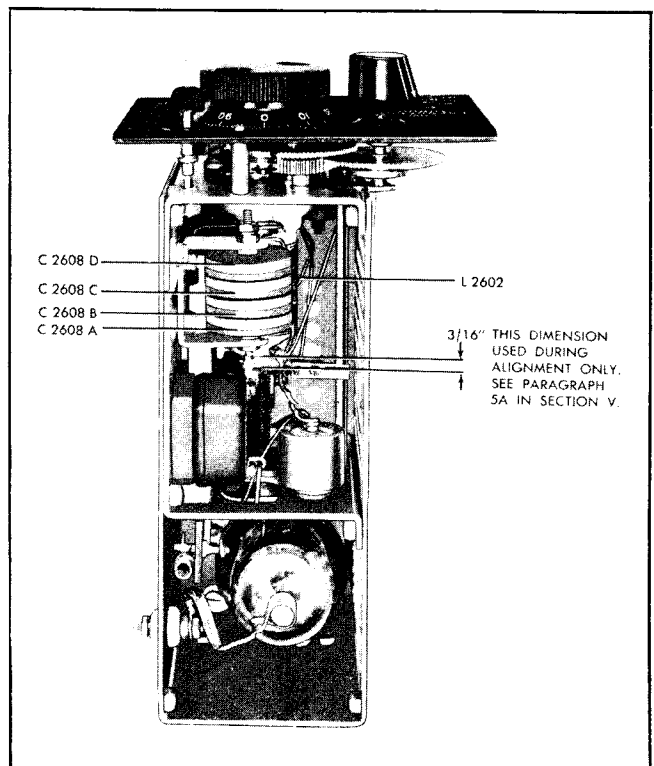

Figure 5-7. Low Frequency Oscillator
(5) Remove cover on top of L.F.O. unit by taking out screws around rim.
(6) Turn control "G" counterclockwise until revolution counter dial reads zero and control "G" will not turn any further. Operate corrector knob so that index line is directly above the center of control "G" even though it no longer points to zero line on the control.
(7) Measure the length of tuning slug that extends out of the rear end of inductor L2602. This dimension should be 3/16" (see dimension shown in figure 5-7). If the slug extends out by this amount, no change in slug position is required and the following steps No. 8, 9, and 10 may be omitted—proceed with step No. 11. If the slug is incorrectly set, proceed with step No. 8.
(9) Hold gear train in dial drive mechanism, so that it cannot rotate. Then rotate control "G" until tuning slug in inductor L2602 extends 3/16" out of the rear of the coil form (see dimensions shown in figure 5-7).
(10) Retighten Bristo setscrews in small spur gear.
(11) Loosen two setscrews in control knob "G" and holding the gear train stationary, set knob so that zero mark lines up with the index line. Then retighten setscrews in the knob.
(12) Set control "G" to read exactly 1964.0 (this is dial setting shown in calibration table 6-9 for frequency of 600 Kc). Approach setting in a clockwise direction.
(13) Replace shield cover on top of low frequency oscillator unit. Operate power level switch to CALIBRATE position.
(14) Connect headphones to sidetone output jack.
(15) While listening to sidetone output, adjust trimmer condenser C2608A (see fig. 5-7 and note that trimmer can be reached through slot in shield cover of LFO unit). Until zero beat is obtained between the output of the calibration oscillator in the CFI unit. These trimmer condensers are adjusted by changing the position of the small "pronged" metal lip that projects out from the side of the rounded edge of the capacitor.
(16) The alignment of band 3 is now complete. Rotate control "F" to band 2 (285 to 415 Kc).
(17) Set control "G" to read exactly 1055.0 (this is dial setting shown in calibration table 6-9 for frequency 350 Kc). Approach setting in a clockwise direction.
(18) While listening to sidetone output (in headphones), adjust capacitor C2608B (see fig. 5-7) until "zero beat" is obtained between output of low frequency oscillator and calibration oscillator in CFI unit.
(19) The alignment of band 2 is now complete. Rotate control "F" to band 1 (200 to 285 Kc).
(20) Set control "G" to read exactly 1216.8 (this is dial setting shown in calibration table 6-9 for frequency of 250 Kc). Approach setting in a clockwise direction.
(21) Listen to sidetone output and obtain "zero beat" by adjusting either or both trimmer capacitors C2608C and C2608D (see fig. 5-7).
(22) Alignment of band 1 is now complete. Check excitation over entire range on all three bands by rotating control "G" through 20 revolutions and observing P.A. GRID reading. The excitation should be nearly uniform over entire frequency range and P.A. GRID meter should read between 90 and 120.